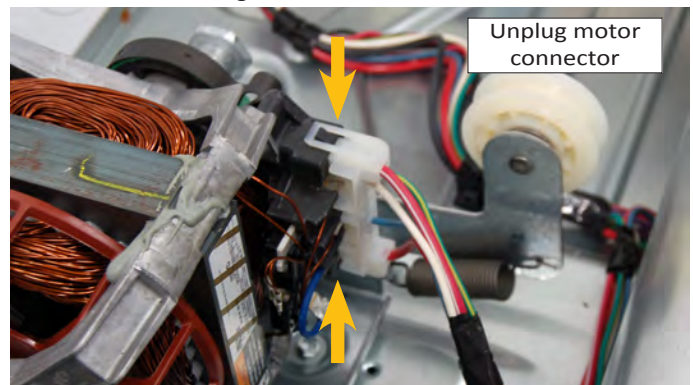

Figure 3 - Unplug motor connector.
8. Lift the locking tabs on the top and bottom of the motor harness plug and disconnect the plug from the motor terminals. See Figure 3.